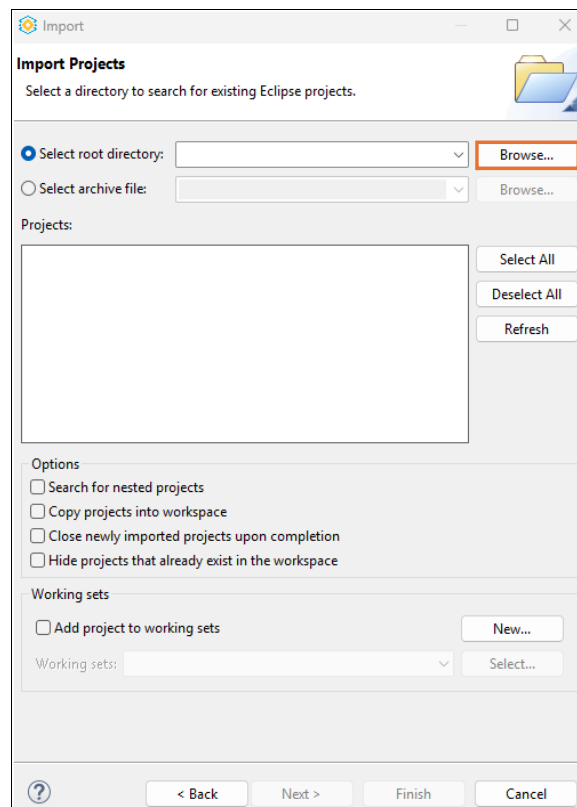

Figure 5.3. Browse Projects Root Directory
- Click the **Browse** button to set the root directory (Figure 5.3):